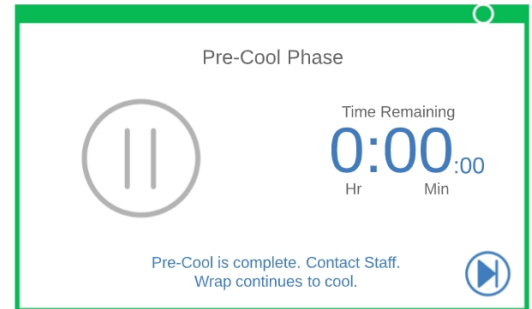

Figure 17. Pre-Cool Complete
- If Pre-Cool phase completes before the 30 min elapses (the device reaches and maintains set temperature for 10 min), TRANSITION (▶) will appear on the screen, the timer will present 0:00, and the screen will indicate that Pre-Cool is complete (Figure 17).